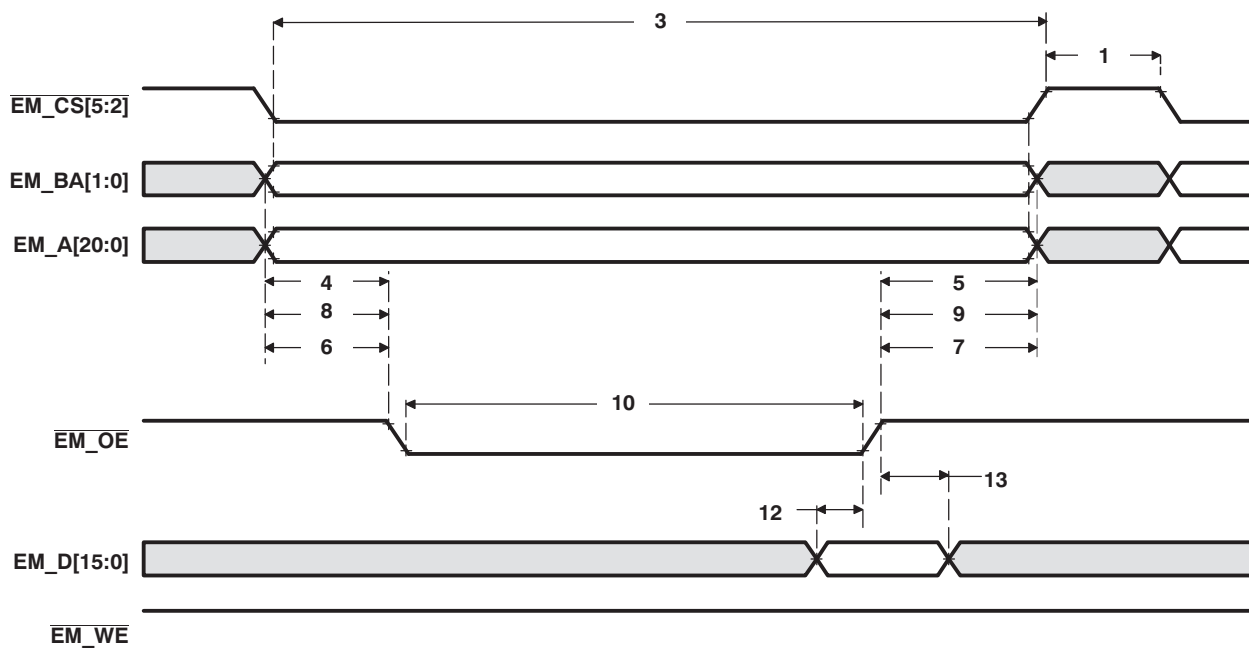
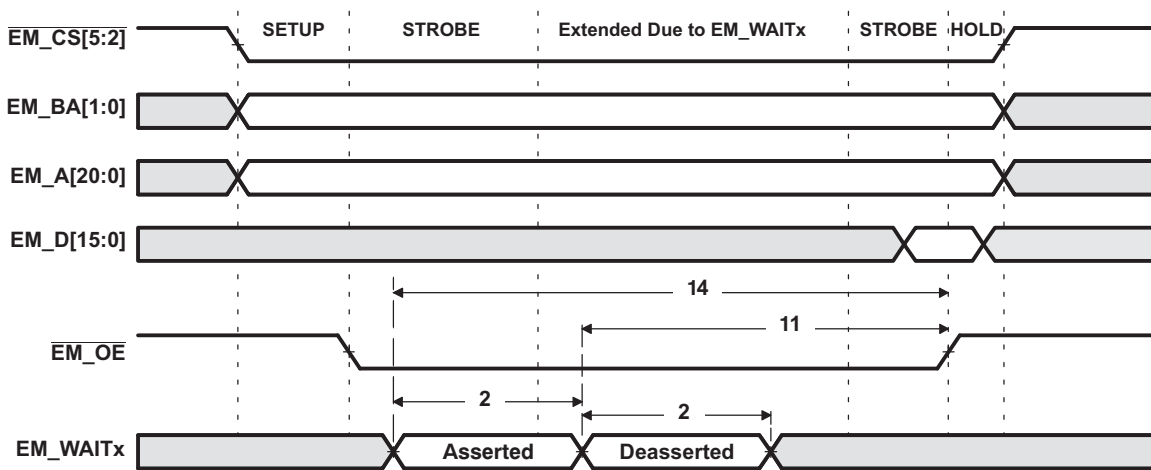
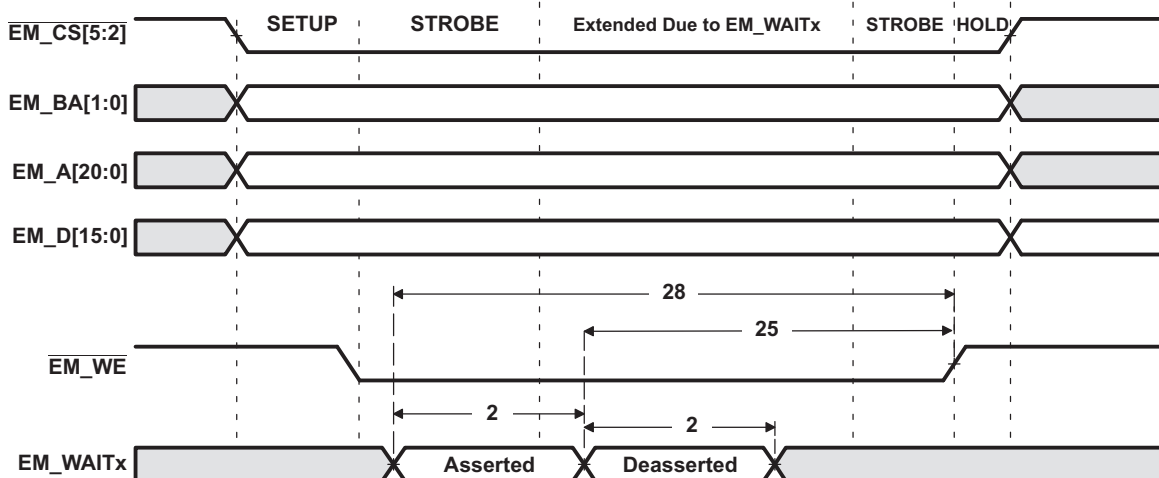

Figure 5-17. Asynchronous Memory Read Timing for EMIF
Figure 5-19. EM_WAITx Read Timing Requirements
Figure 5-20. EM_WAITx Write Timing Requirements
Table 5-19. Timing Requirements for EMIF Asynchronous Memory⁽¹⁾⁽²⁾ (see Figure 5-17, Figure 5-19, and Figure 5-20)
(1) Timing parameters are obtained with 10pF loading on the EMIF pins.
(2) E = SYSCLK period in ns. For example, when SYSCLK is set to 100/120 MHz, E = 10/8.33 ns, respectively.
(3) Setup before end of STROBE phase (if no extended wait states are inserted) by which EM_WAITx must be asserted to add extended wait states. Figure 5-19 and Figure 5-20 describe EMIF transactions that include extended wait states inserted during the STROBE phase. However, cycles inserted as part of this extended wait period should not be counted; the 4E requirement is to the start of where the HOLD phase would begin if there were no extended wait cycles.
Table 5-20. Switching Characteristics Over Recommended Operating Conditions for EMIF Asynchronous Memory^{(1)(2) (3) (4)} (see Figure 5-17, Figure 5-19, and Figure 5-20)
(2) TA = Turn around, RS = Read setup, RST = Read strobe, RH = Read hold, WS = Write setup, WST = Write strobe, WH = Write hold, MEWC = Maximum external wait cycles. These parameters are programmed via the Asynchronous Configuration and Asynchronous Wait Cycle Configuration Registers.
(3) E = SYSCLK period in ns. For example, when SYSCLK is set to 100/120 MHz, E = 10/8.33 ns, respectively.
(4) EWC = external wait cycles determined by EM_WAITx input signal. EWC supports the following range of values EWC[256-1]. Note that the maximum wait time before timeout is specified by bit field MEWC in the Asynchronous Wait Cycle Configuration Register.
Table 5-20. Switching Characteristics Over Recommended Operating Conditions for EMIF Asynchronous Memory^{(1)(2) (3) (4)} (see Figure 5-17, Figure 5-19, and Figure 5-20) (continued)